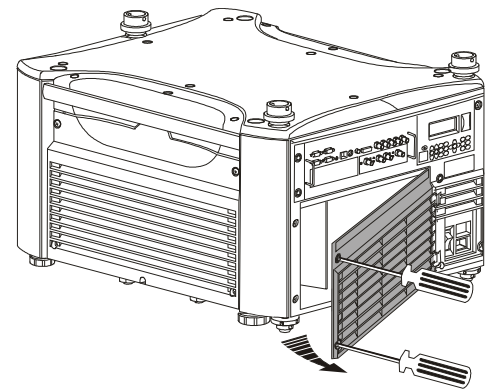

Figure 4-2 Open Lamp Door
Using a #2 Phillips screwdriver, loosen the ¼-turn lock screws (2) securing the lamp door, which is located at the rear of the projector below the Input panel. See Figure 4-2.